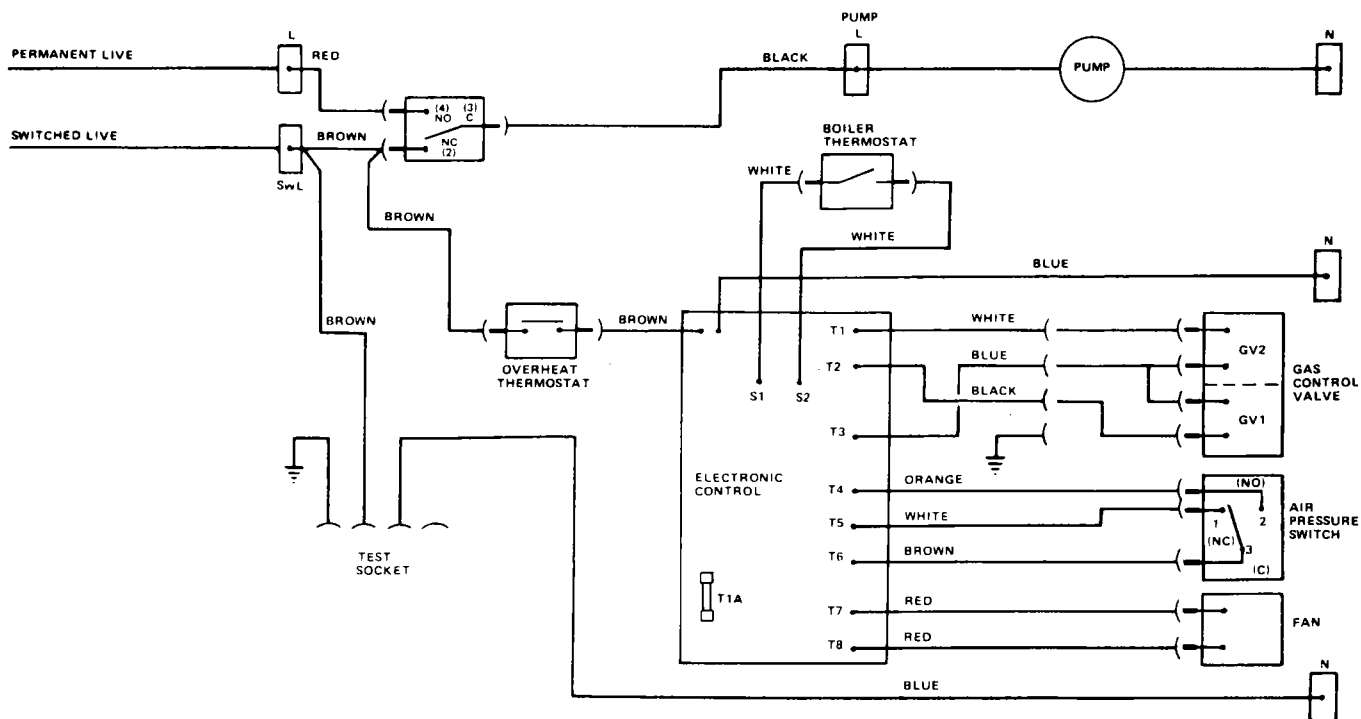

FIG. 26 FUNCTIONAL FLOW DIAGRAM
Refer to Fault Finding Chart FIG. 30 and Wiring Diagram FIGS. 26, 27.
4. Disconnect the electrical supply wires from the gas control valve noting their position. Refer to FIGS. 26 & 27.